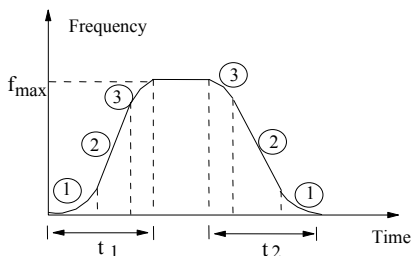

Figure 5-12 Acc/Dec S curve
The output frequency increase or decrease according to S curve, see Figure 5-12.
S curve start time is illustrated in Figure 5-12 as ①, the change rate of output frequency is increasing from 0.
S curve rising time is illustrated in Figure 5-12 as ②, the change rate remains the same.
S curve end time is illustrated in Figure 5-12 as ③. The change rate decreases to 0.